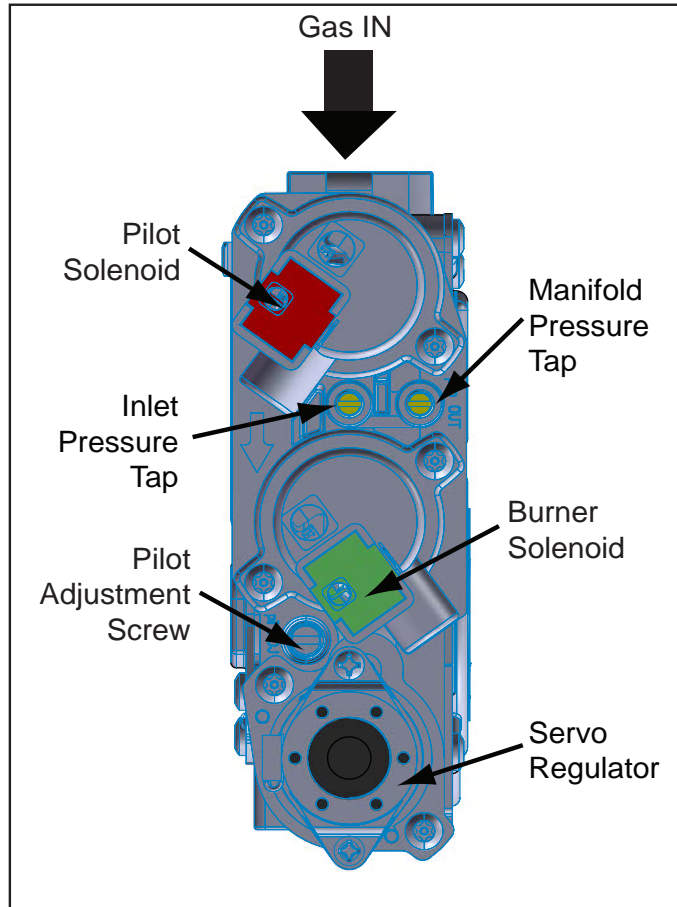

Figure 40: Fully Labeled Gas Valve.
The pressure taps are located on the valve shown in Figure 40.
1. The adjustment screw can be reached through the front of the unit using a 10 inch long blade head screw driver (see Figure 40 for location on valve).